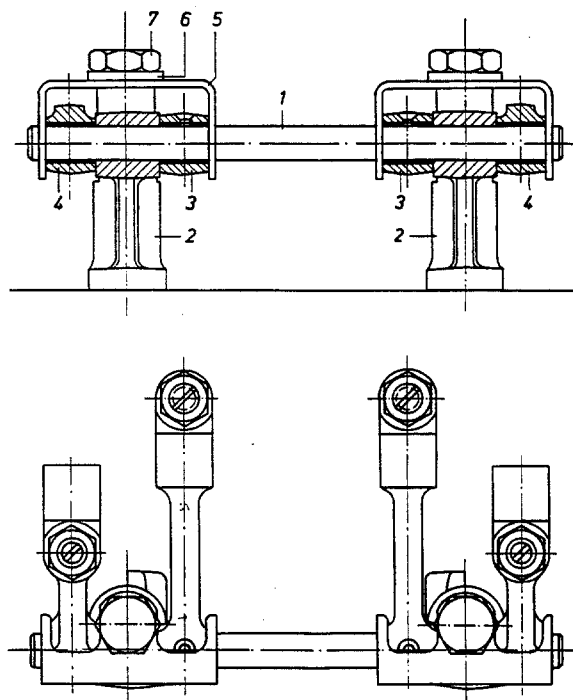

Fig. M 74/3
3. Take out snap ring at one end of rocker arm shaft and take the various parts off the shaft (see Fig. M 74/5).
Note: In Type 220a the rocker arms are held in position by a yoke. This yoke is fastened to the rocker arm bracket by means of the fastening screw (Fig. M 74/3).